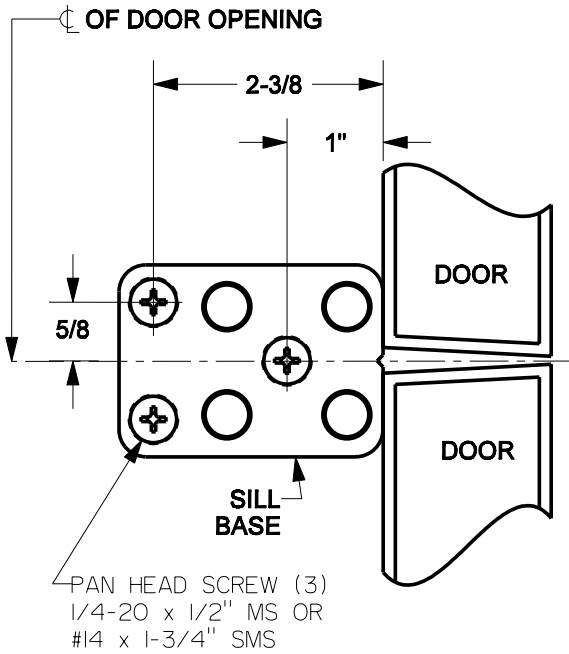

FIG 1A
1. Center **SILL BASE** between doors and flush with closed doors (FIG 1A) . Fasten in place with anchors and screws provided (FIG 1B).